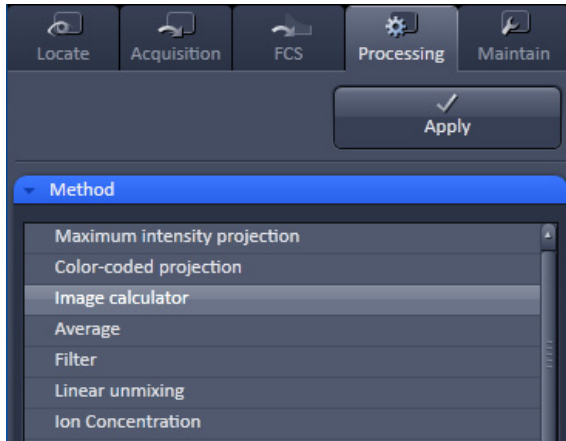

Fig. 379 Activating the Image Calculator
- To open the **Image calculator** tool (Fig. 379), click on the **Image calculator** in the list of the **Method** panel in the **Processing** main tool tab.